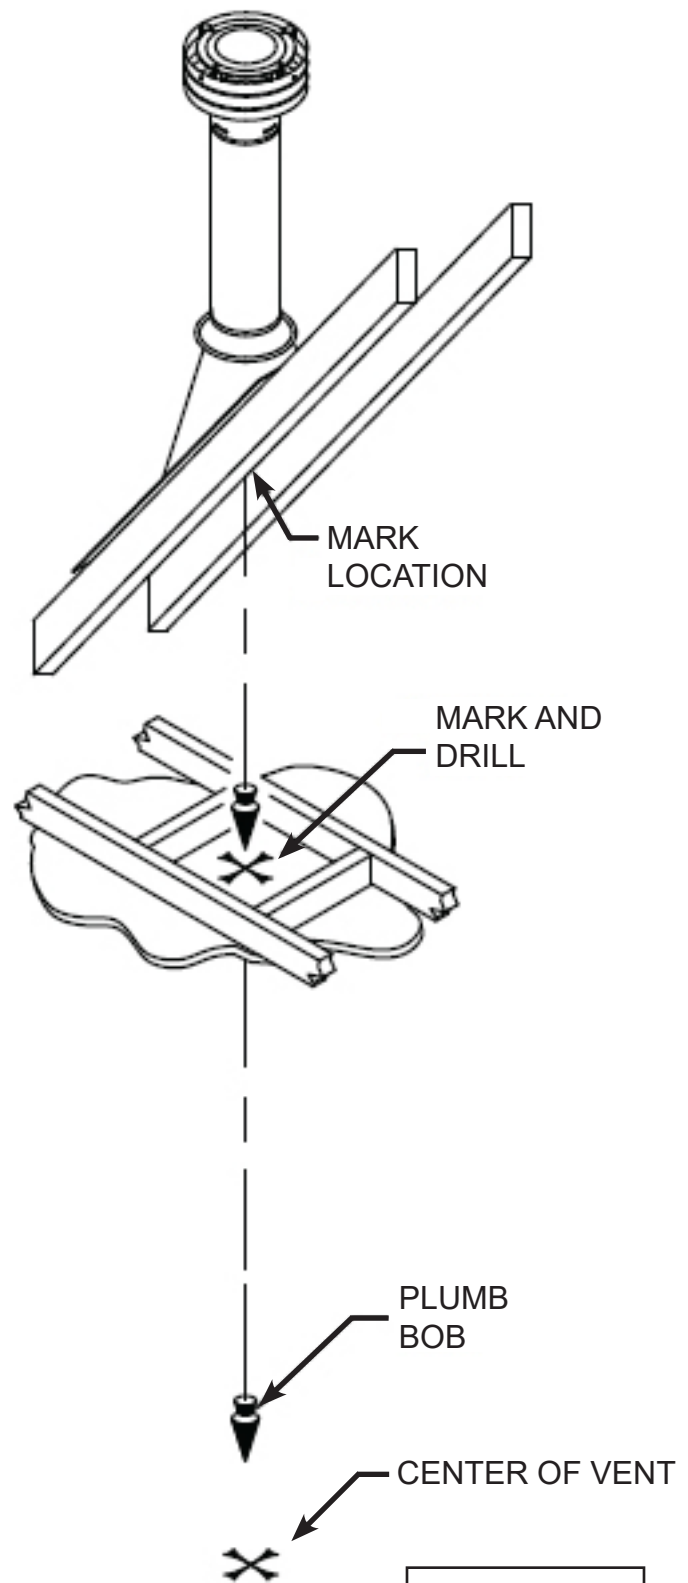

FIGURE 13
Step 2. Set the Zircon in the desired location. Drop a plumb bob down from the ceiling to the position of the appliance flue exit, and mark the location where the vent will penetrate the ceiling. Drill a small hole at this point. Next, drop a plumb bob from the roof to the hole previously drilled in the ceiling, and mark the spot where the vent will penetrate the roof (Fig. 13). Determine if ceiling